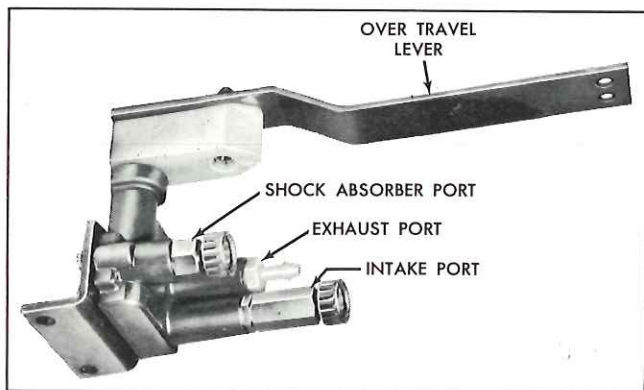

Fig. 10—Height Control Valve
A PRESSURE REGULATOR is attached to the output side of the reservoir. It regulates Superlift supply pressure to approximately 125 psi. The rear standing height is automatically maintained at a nearly constant position by a CONTROL VALVE (fig. 10) attached to the rear suspension
2. Remove Superlift line at control valve (fig. 10).